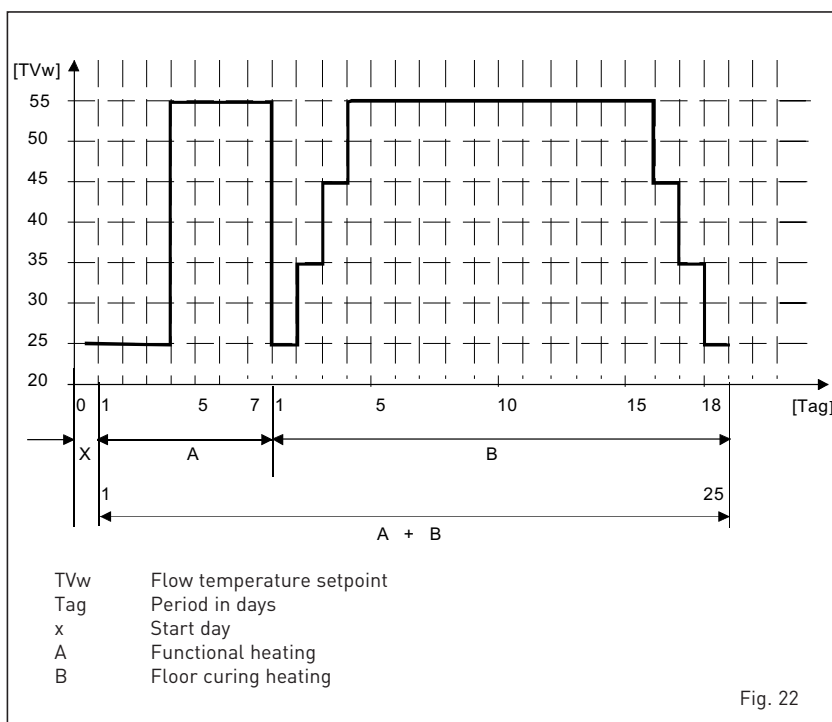

Fig. 22
During the functioning the display shows the remaining days for the completion of the function (example mains digits -15 = 15 days lack to the end of the function). The diagram fig. 22 reports the development of the curve.
4.5.2 Operation floor drying (fig. 22)